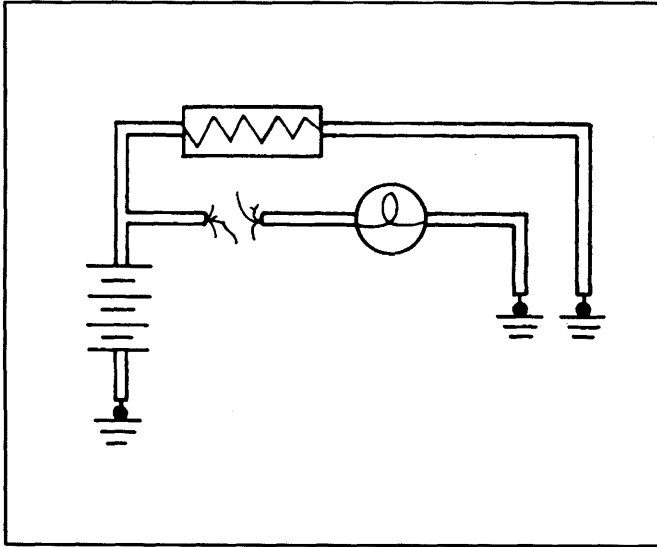

Figure 20 — Open Circuit
**OPEN CIRCUIT (Figure 20)** – An open circuit occurs whenever there is a break in the circuit. The break can be corrosion at the connector, a wire broken off in a component, a wire that burned open from too much current or a component not operating as it should.